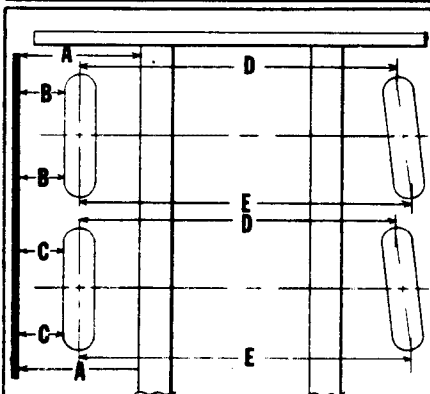
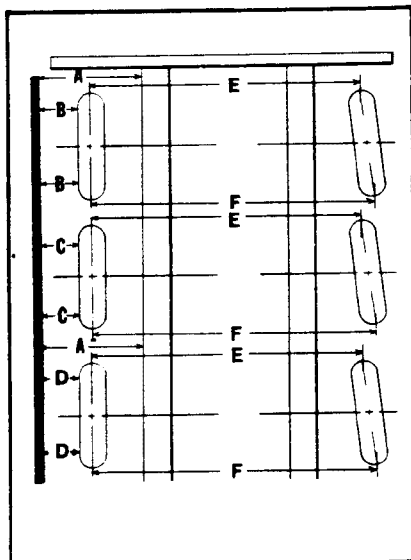

Fig. 4
Fig. 5
- Turn steering wheel until the left tires are in line with each other and are straight ahead with respect to the carrier. Figs. 4 & 5 illustrate one method of checking step (b). This involves placing a straight edge parallel to the carrier by measuring a distance (A) at each end of the straight edge. Once the proper position of the straight edge is determined, measure the distance between the straight edge and the milled surface of the wheel hub used to locate the tire lugs. These dimensions are represented by the letters (B) & (C) in Fig. 4, and the letters (B), (C), and (D) in Fig. 5. Distances (B) must equal (B), and (C) must equal (C), but (B) doesn't necessarily have to equal (C). A drag link adjustment may be necessary to correct any misalignment.
- Once the front left tires are lined up, check for proper toe in. Toe in can be checked by scribing a line around the circumference of the tire tread at the centerline of the tire tread. The difference between the distances (D) on the front and (E) on the back. (E and F in Fig. 5) indicate the amount of "toe in" and should equal  $1/8" + 1/32"$ . A tie rod adjustment will correct any toe in variations.